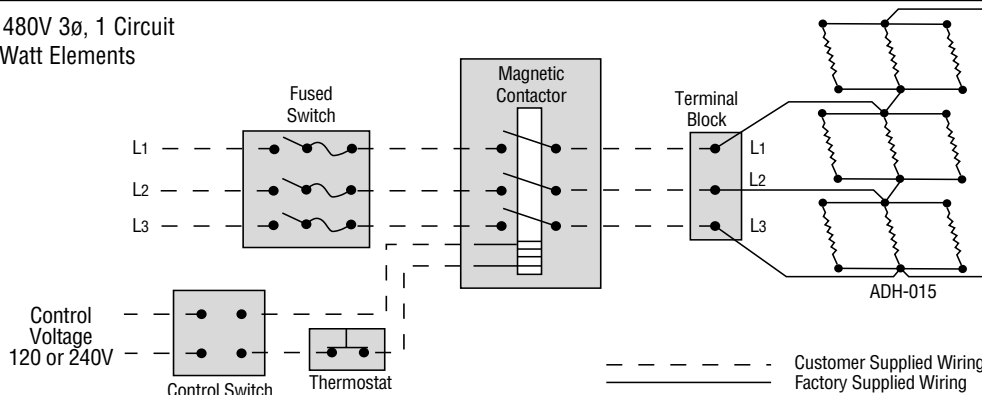

Figure 8
5. Below is an example of a standard ADH-015, 480V 3 Ø 15 kW, wired with recommended back-up controls. (Figure 8)